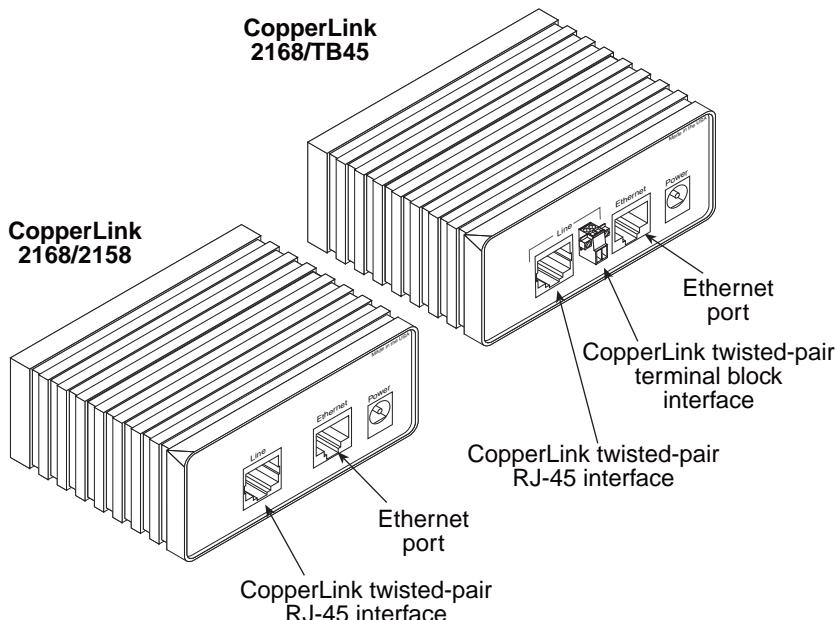

Figure 2. CopperLink Ethernet Extender standalone rear panel
- Note** See Figure 2 for the standalone unit’s rear panel arrangements.